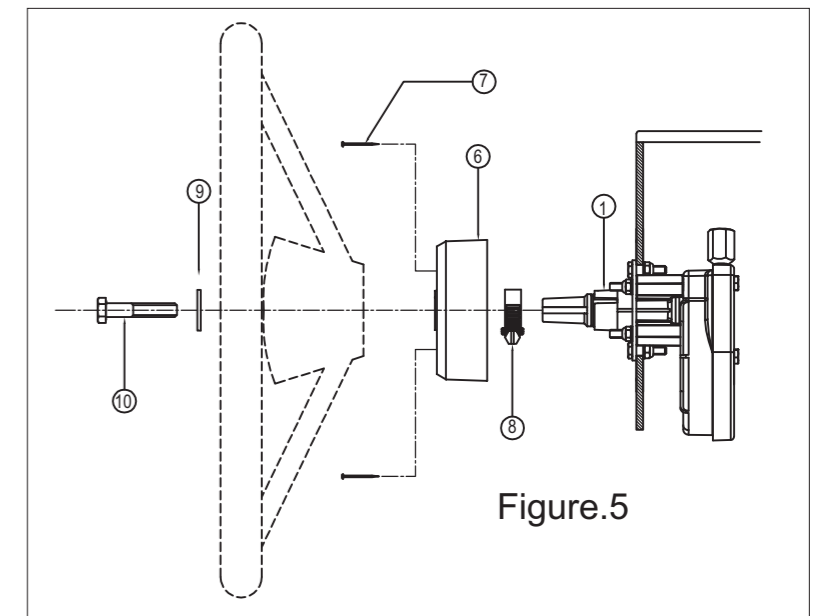

Figure.5
- Install the retaining clip(Sr. No. 8 on part list) provided with the assembly to the required friction(Fig.5).
- Install the Bezel Cup(Sr. No. 6 on part list) on the dashboard using the screws(Sr. No. 7 on part list) provided with the assembly(Fig.5).
- Mount the steering wheel on the helm shaft using the bolt(Sr. No. 10 on part list)/washer(Sr. No. 9 on part list) provided with the assembly(Fig.5).